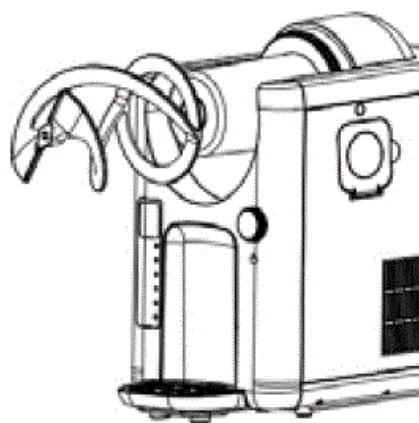

Fig. 2
9. Place the mixer on the square drive pin, as shown in Figure 2, and push the mixer all the way onto the cooling cylinder.